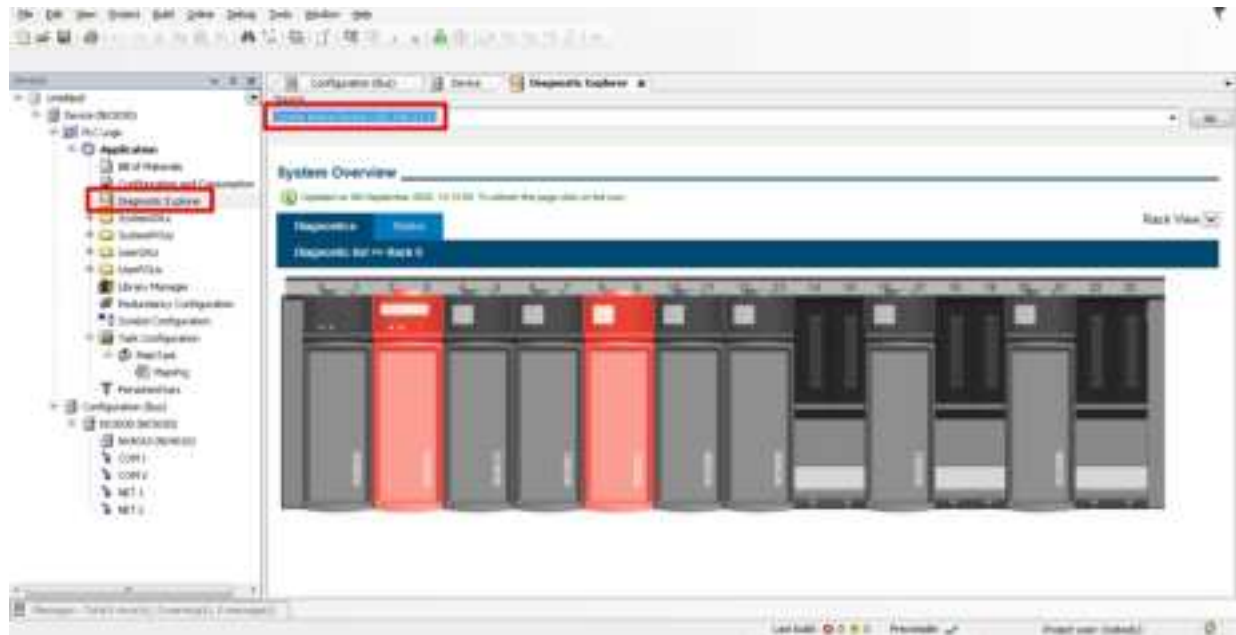

Figure 147: Diagnostic Explorer Screen
- Accessing the “Diagnostic Explorer” option in the device tree, placed on the MasterTool IEC XE screen left, and putting the correct IP in the field indicated on Figure 147. Remembering that for the diagnostics page to be shown, the user must be connected to the CPU (Initial Programming – Login section).